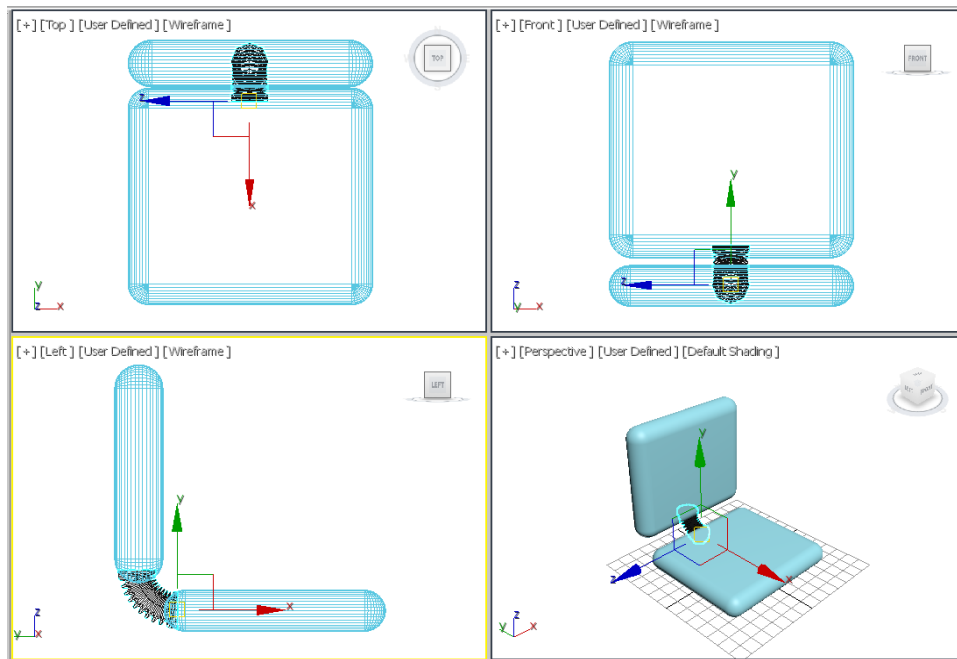

Figure 3-36 Alignment of spring support in the viewports
11. Choose the **Zoom Extents All** tool to display all the objects properly in the viewports, refer to Figure 3-36.